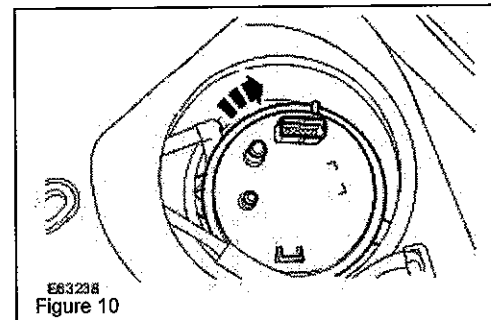

Figure 10
- Press down and rotate the base of the fuel pump module clockwise. (Figure 10)